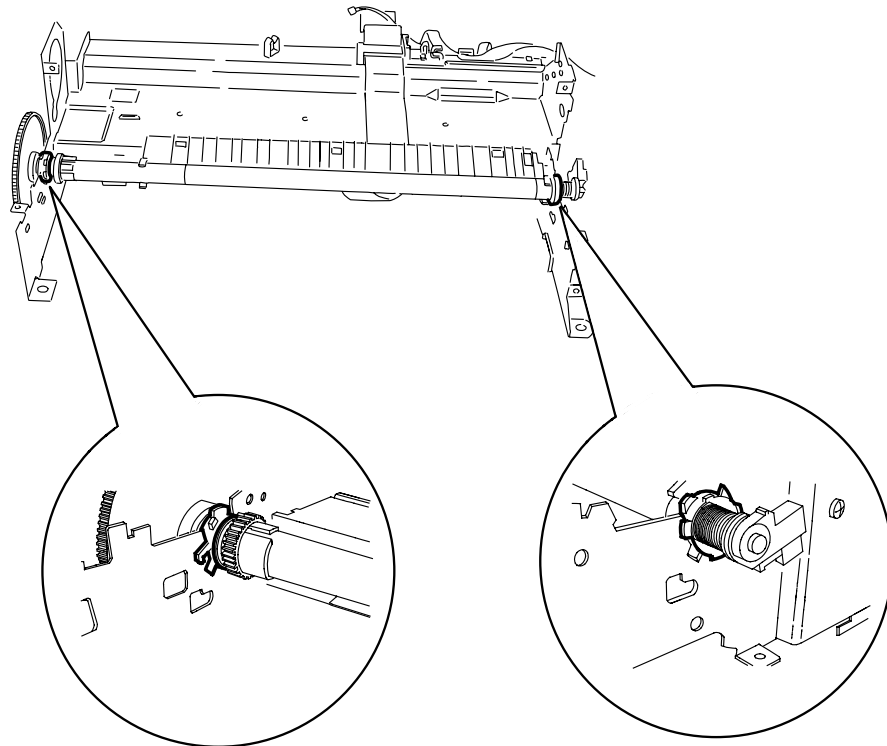

Figure 3-68. Bushing Locations
4. Push levers out to release the lock levers for the right and left bushings (12 mm) securing the paper feed roller assembly to the right and left frames. Then turn them forward until they fit through the cutouts in the frames. Shift the paper feed roller assembly left, and remove the paper feed roller assembly and rear paper guide along with the gear (70 mm) by lifting upward. (See Figure 3-68.)